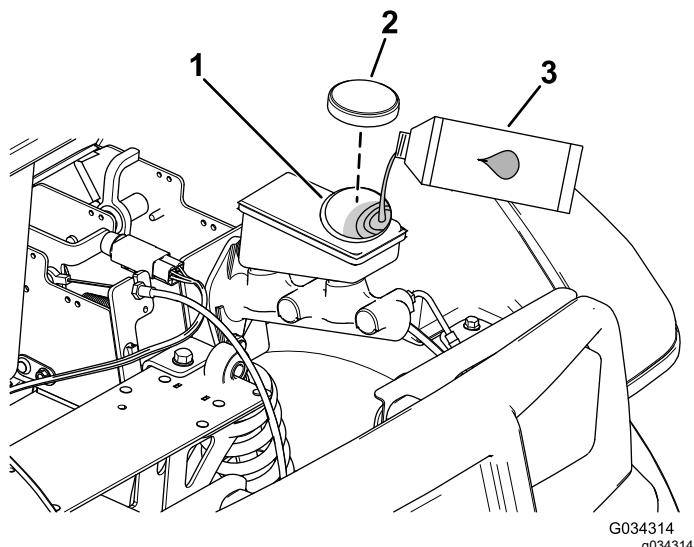

Figure 54
2. Raise the hood to gain access to the master-brake cylinder and reservoir (Figure 54).
- A. Clean the area around the reservoir cap and remove the cap (Figure 54).
- C. Install the reservoir cap (Figure 54).